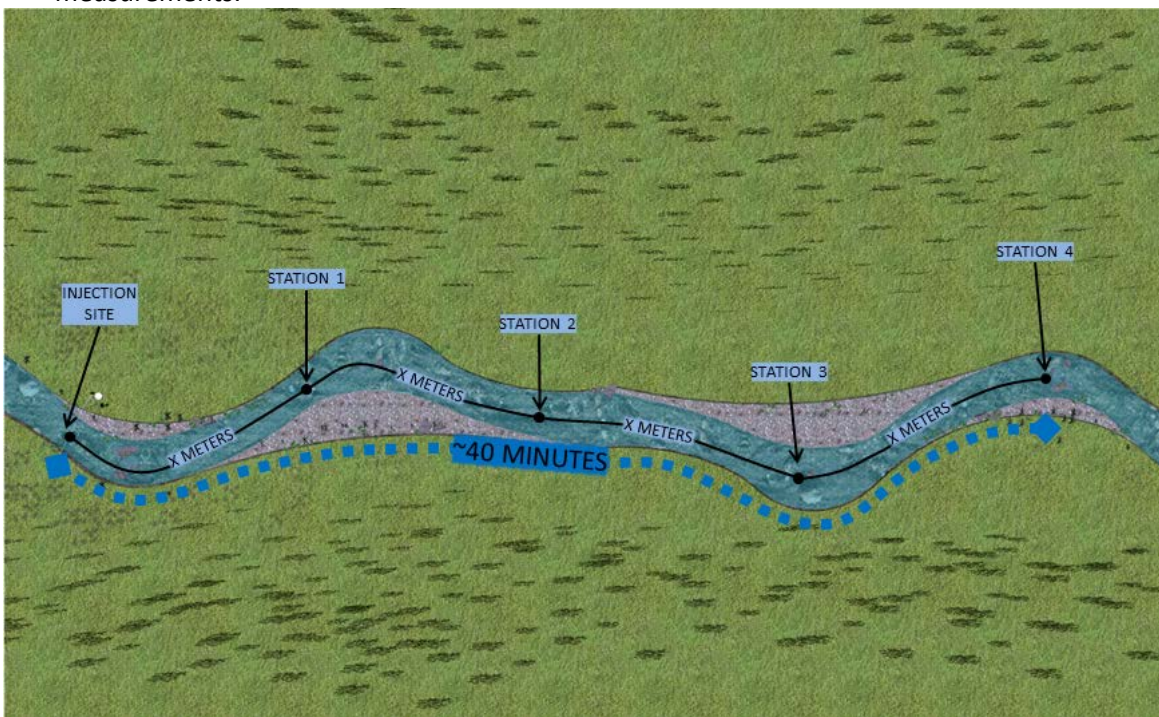

Figure 3. Schematic of stream reach with injection site and four downstream sampling stations. Travel time between Station 1 and 4 should be ~40 minutes.
- a) There will be 4 sampling stations within the reach, located downstream of the injection site (Figure 3).
- a) First, visit each of the four sampling stations (Figure 3), and at each station record four conductivity measurements from the stream thalweg (i.e. the main flow of the stream), for a total of 16 conductivity measurements (See AD [06], Field Data Sheets). Make sure the hand-held conductivity meter is set on the temperature-corrected setting (the “C” should be flashing). If the setting is not correct, press the mode button until you enter the temperature-corrected mode. Wait for the meter to adjust to the stream temperature for more accurate conductivity measurements.
- n) Once the most DOWNSTREAM location has reached plateau, start sampling at the most UPSTREAM location (i.e., Station 1, the station closest to the injection site) and work downstream (Figure 3). The idea is that you are following a parcel of water as it moves downstream.